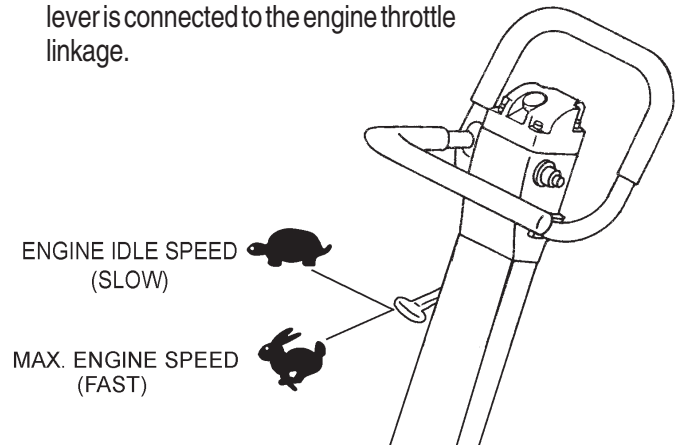

Figure 10. Engine Throttle Lever
4. Place the **throttle lever** halfway between **FAST** and **SLOW**. This compactor is equipped with a throttle lever (Figure 10) that is located in the vicinity of the hydraulic pump. This throttle lever is connected to the engine throttle linkage.
1. Grasp the compactor's hand grip and move the throttle lever (Figure 10) quickly to the **fast** position. The compactor will not operate correctly until the engine speed is high enough to engage the centrifugal clutch (approximately 2300 RPMs)